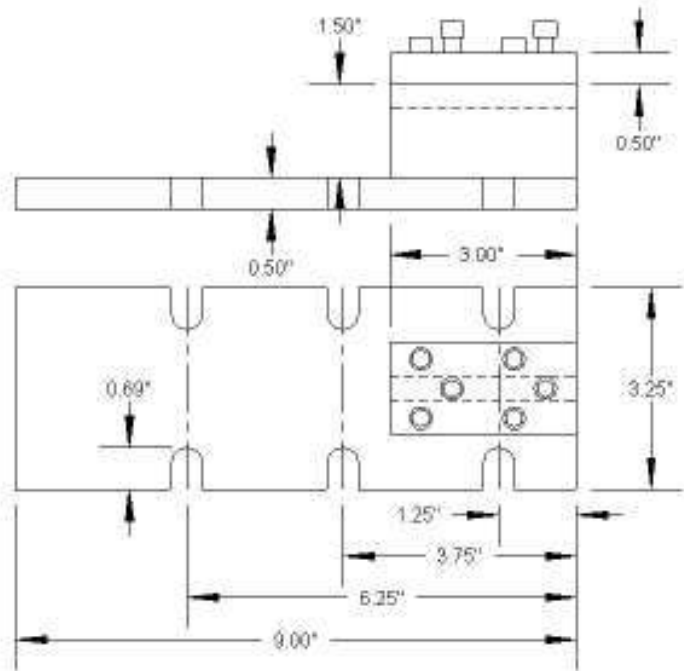

Figure 6 - Top and Side View of Square-stock Tool Holder
- Figure 6 - Top and Side View of Square-stock Tool Holder . . . . . 5